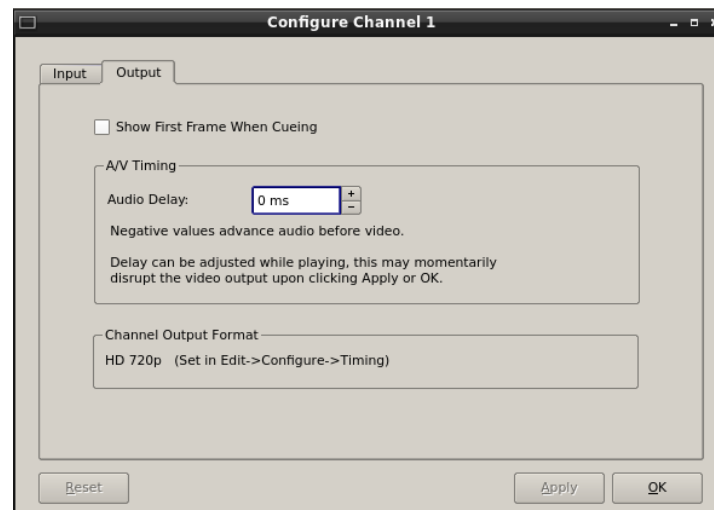

Figure 8 - Audio Delay Time Offset
- Select **OPTIONS >CONFIGURE>OUTPUT** from the Channel Transport Window. The Dialog box in Figure 8 appears.